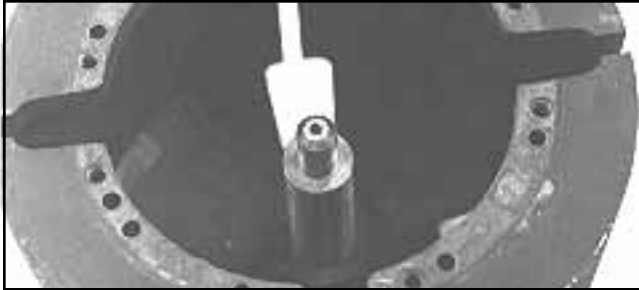

Figure 16
6. Figure 16 shows the rotor shaft inside the rotor body.